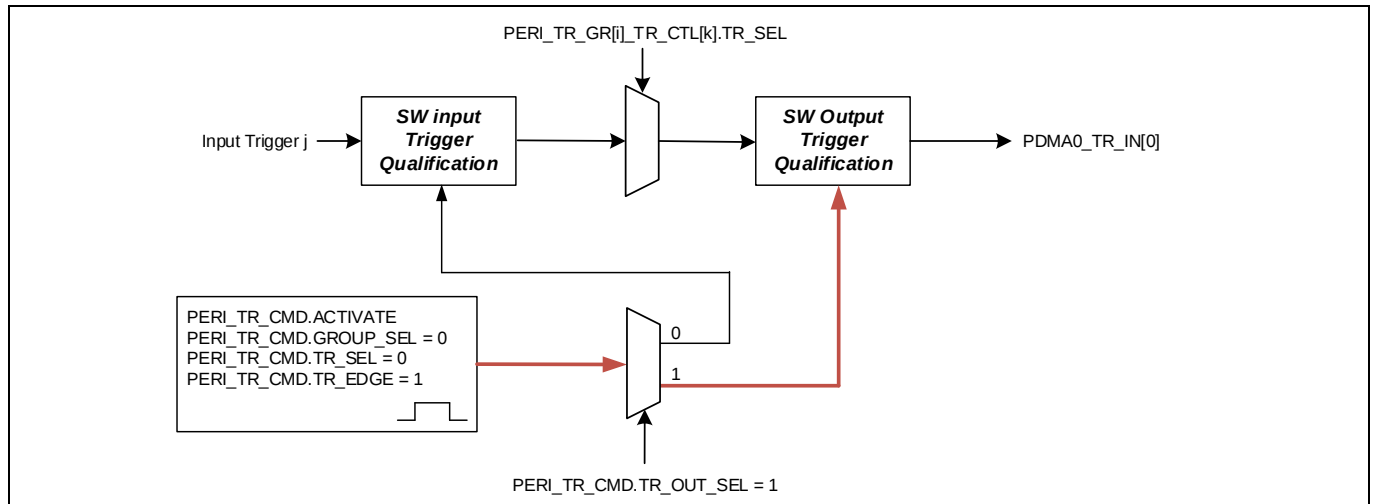

Figure 8 P-DMA (DW)0 data transfer start by SW
Figure 8 shows the trigger of data transfer on P-DMA (DW)0 by SW.